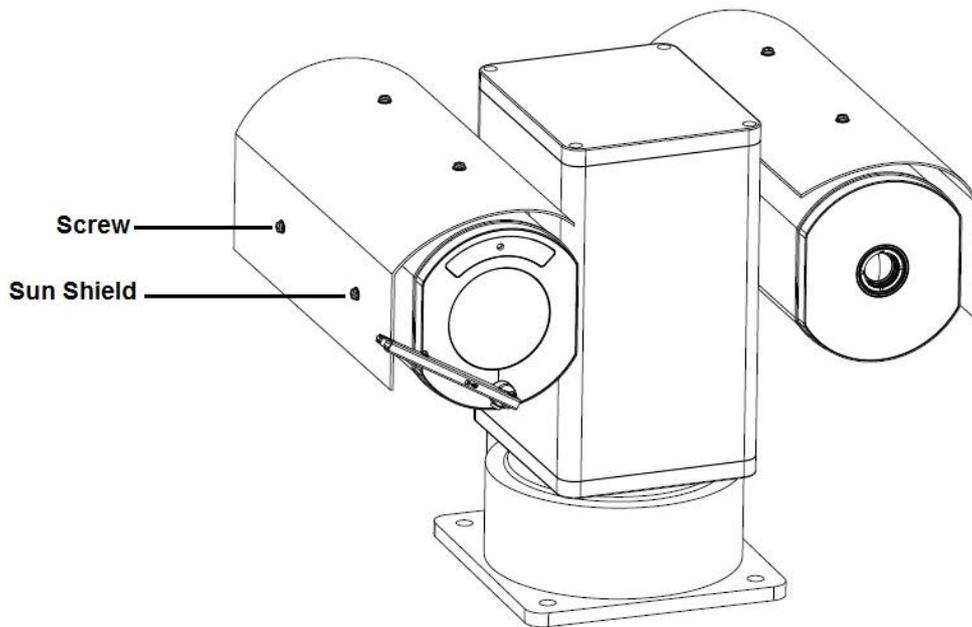

Figure 3-1
1. Take out the camera, sun shield and screw package from the packing box, place them on the corresponding location respectively, and then insert the screws and use a screwdriver to tighten them firmly, which is shown in Figure 3-1.
1. Take out the camera, sun shield and screw package from the packing box, place the sun shield on the corresponding location and make the arc surface face the front, insert the screws and tighten them firmly by a screwdriver, which is shown in Figure 3-1.